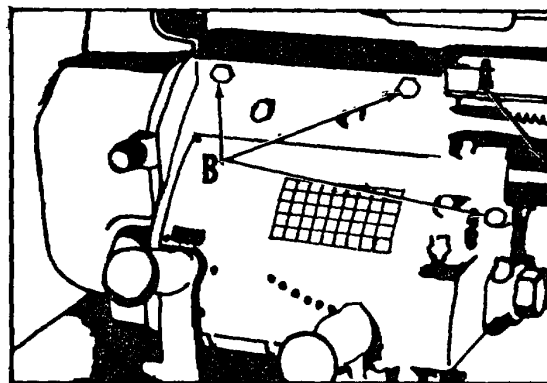

Fig. 40.
- Disengage lead screw from gear box by loosening set screw (A) Fig. 40 and moving lead screw to the right a few inches.
- Remove three screws (B) Fig. 40 and remove gear box from the lathe.